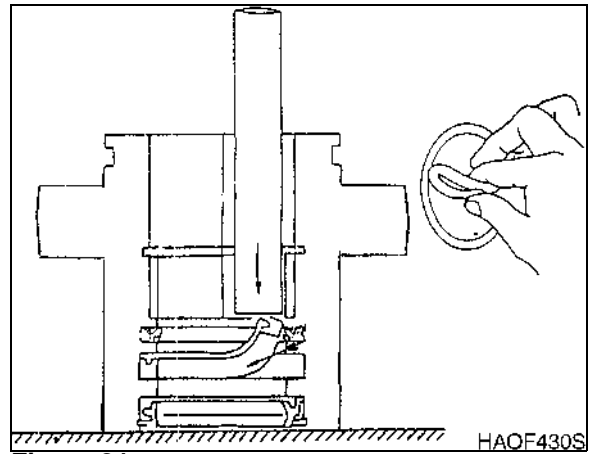

Figure 31
3. Pre-lubricate O-rings and seals before assembly (Figure 31).